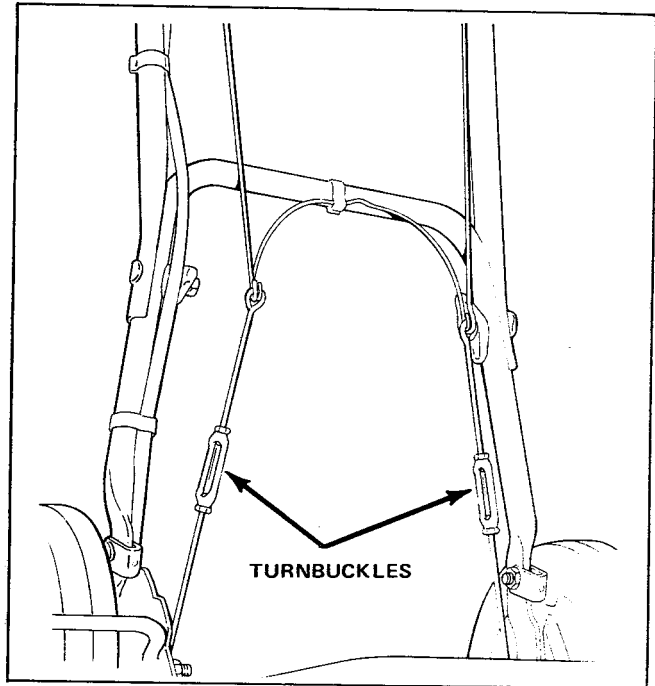

Figure 27. Adjusting Control Linkage
1. Determine which wheel is slipping. Loosen the locknuts on the control rod turnbuckle on that side (See figure 27).